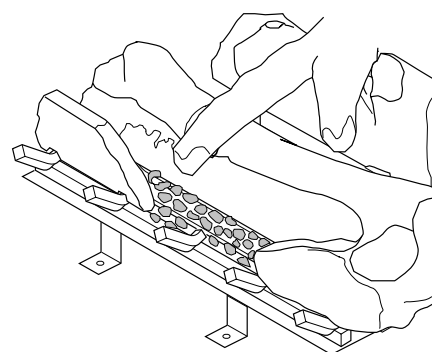

Figure 44 - Placing Ember Material on Burner
6. Pull ember material apart into pieces no larger than a dime. Place these pieces loosely and sparingly directly onto the exposed section of the front burner and along the space between the burner and grate prongs (see Figure 44). This will create the glowing ember appearance as the flame touches the ember material. Do not block air slots by using too much ember material in one area. It is not necessary to use all of the ember material provided.